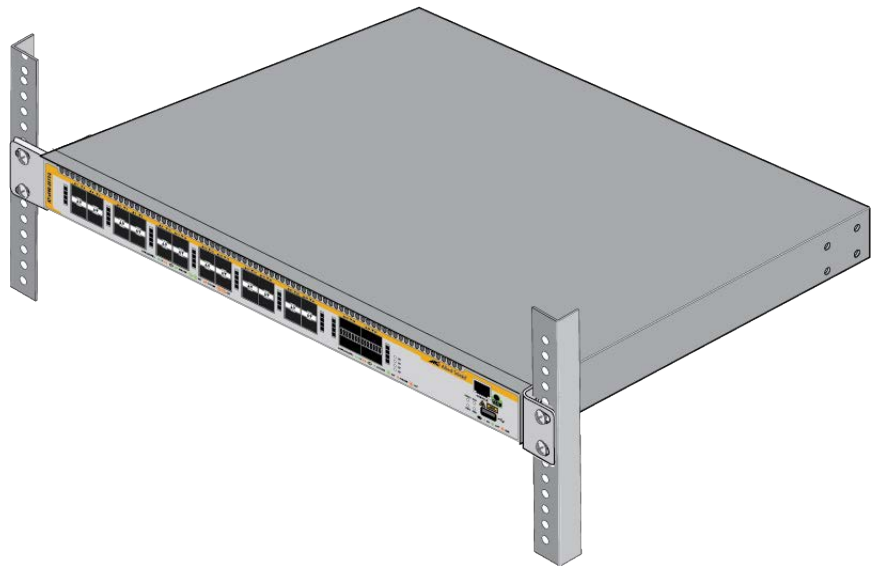

Figure 15. Correct Switch Orientation in an Equipment Rack
- ❑ You must install the switch with its front panel level with the front of the equipment rack. See Figure 15 as an example.